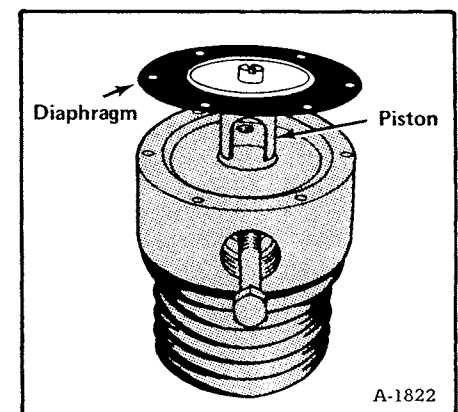

Fig. 7-21 Aligning Piston
- (1) Put a new diaphragm (Item 9) over the piston (Item 20) and put the retainer (flange up) on the diaphragm. Hold the parts with the screw but do not tighten at this time.
- (2) Check the condition of the inlet orifice (Item 13). If it is damaged at the orifice shoulder, install a new orifice.
- (3) Install the inlet orifice block into its bore temporarily. This part has a slot and fits on a dowel pin in the bore to prevent the part from being installed wrong.
- (4) Put the assembled diaphragm and piston into the bore (Fig. 7-21) so that the piston fits over the inlet orifice block without contacting it.
- (5) Make alignment of the six screw holes of the diaphragm with the holes in the vaporizer head and tighten the diaphragm (Fig. 7-21). Hold the diaphragm and retainer to keep them from moving when tightening the screw.
- (6) Remove the assembled diaphragm and piston and the inlet orifice block from their bores after correct alignment has been made.
- (7) Check the inlet valve seat. If the disc is damaged or badly worn, make replacement of the complete unit.